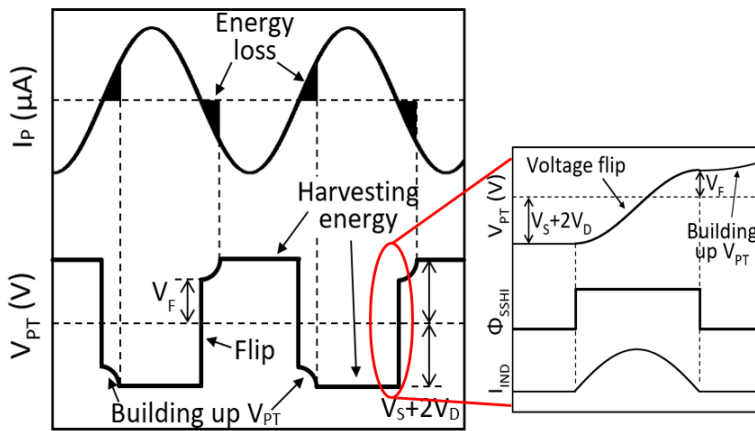

Figure 2b. Associated Waveform of SSHI Interface.
the PT. A weakly coupled piezoelectric transducer (PT) is employed in this work; hence, the synchronized switch damping (SSD) effect [18] is neglected and the PT can be modeled as a current source I_p in parallel with a capacitor C_p [9]. The associated waveforms of the SSHI circuit are shown in Figure 2b. Before zero-crossing instants of the current source I_p , the voltage across the PT, V_{PT} , equals to $V_s + 2V_D$ or $-(V_s + 2V_D)$. In order to overcome the threshold set by the FBR and transfer energy into the storage capacitor C_s in the next half-cycle, V_{PT} needs to be flipped from $V_s + 2V_D$ to $-(V_s + 2V_D)$ (or vice-versa).